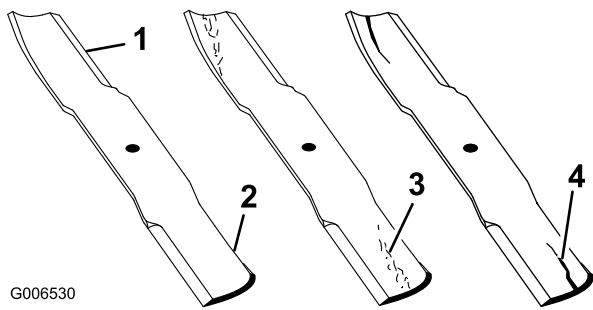

Figure 83
1. Inspect the cutting edges (Figure 83).
- Inspect the blades, especially the curved area (Figure 83).
If you notice any damage, wear, or a slot forming in this area (Figure 83), immediately install a new blade.